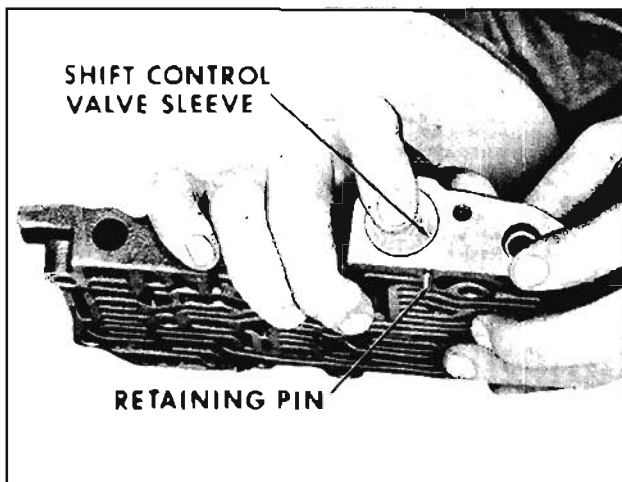

Fig. 6-308 Removing Shift Control Valve and Shift Valve
2. Depress shift control valve sleeve and remove retaining pin by turning valve body over so pin will fall free. Remove shift control valve sleeve, shift control valve, spring, washer, and shift valve. (Fig. 6-308)